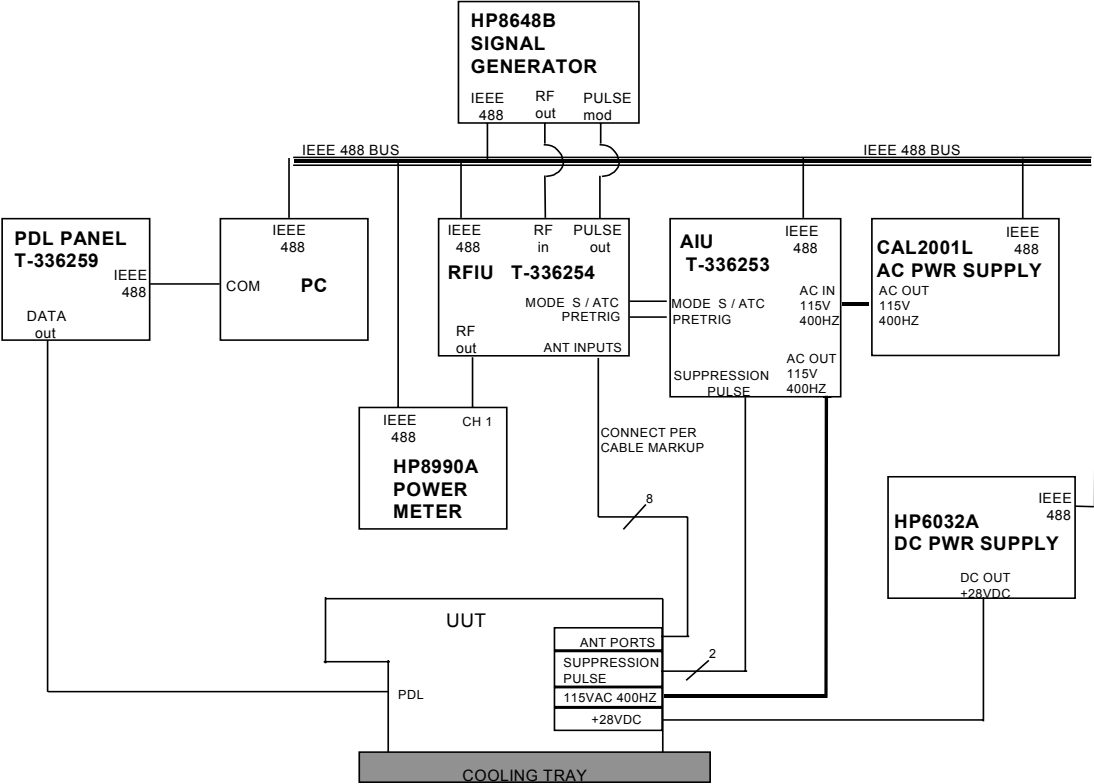

Figure 1. MTS Test Equipment Setup
6. TEST SETUP 6.1 Power up Honeywell and commercial test equipment and allow it to warm up appropriately. Verify that test equipment used is calibrated and functioning properly. 6.2 Connect the test equipment to the UUT (see figure 1). Set IEEE-488 addresses as follows (in Hex): Aircraft interface unit: 16 RF interface unit: 25 HP 8648B signal generator: 19 Cal Instruments AC power supply 2001L 01 HP 8990A peak power analyzer: 07 HP 6032A DC power supply 05 HP 34970A Data Acquisition Switch Unit (Optional) 09